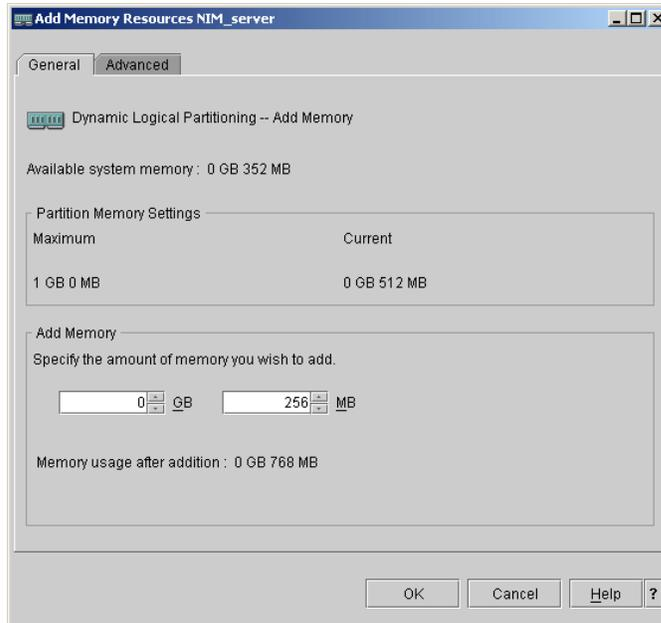

Figure 5-10 Additional 256 MB memory to be added dynamically
2. Choose the memory settings you want to add (see Figure 5-10).